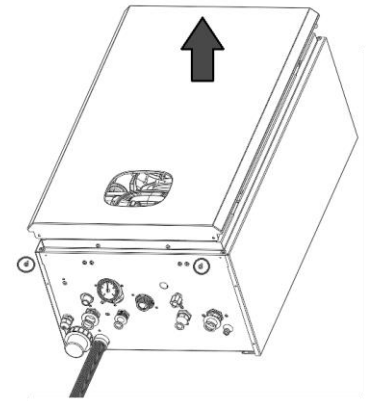

Fig. 1
4. Remove the front cover of the boiler by unscrewing the relevant fixing screws (fig. 1).